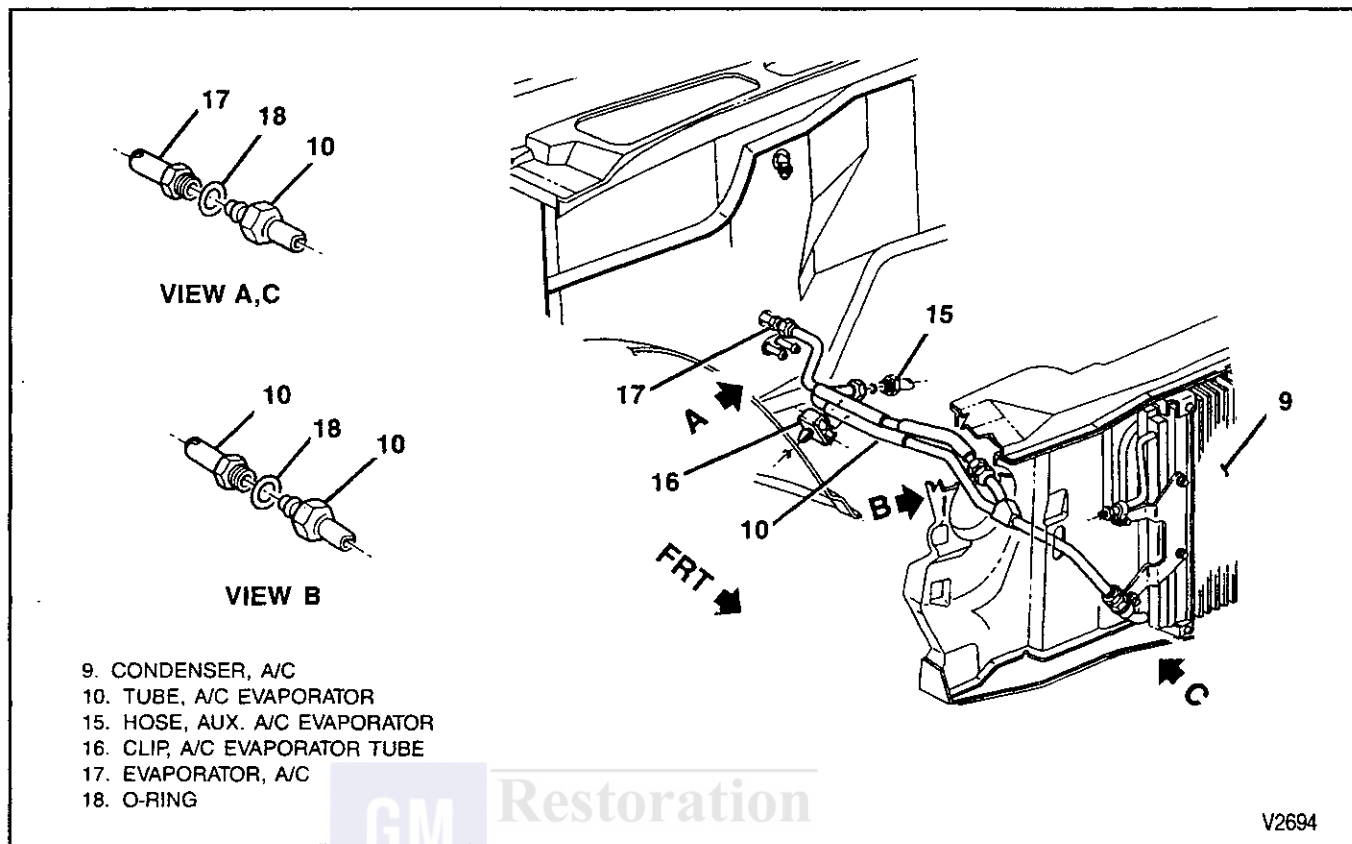
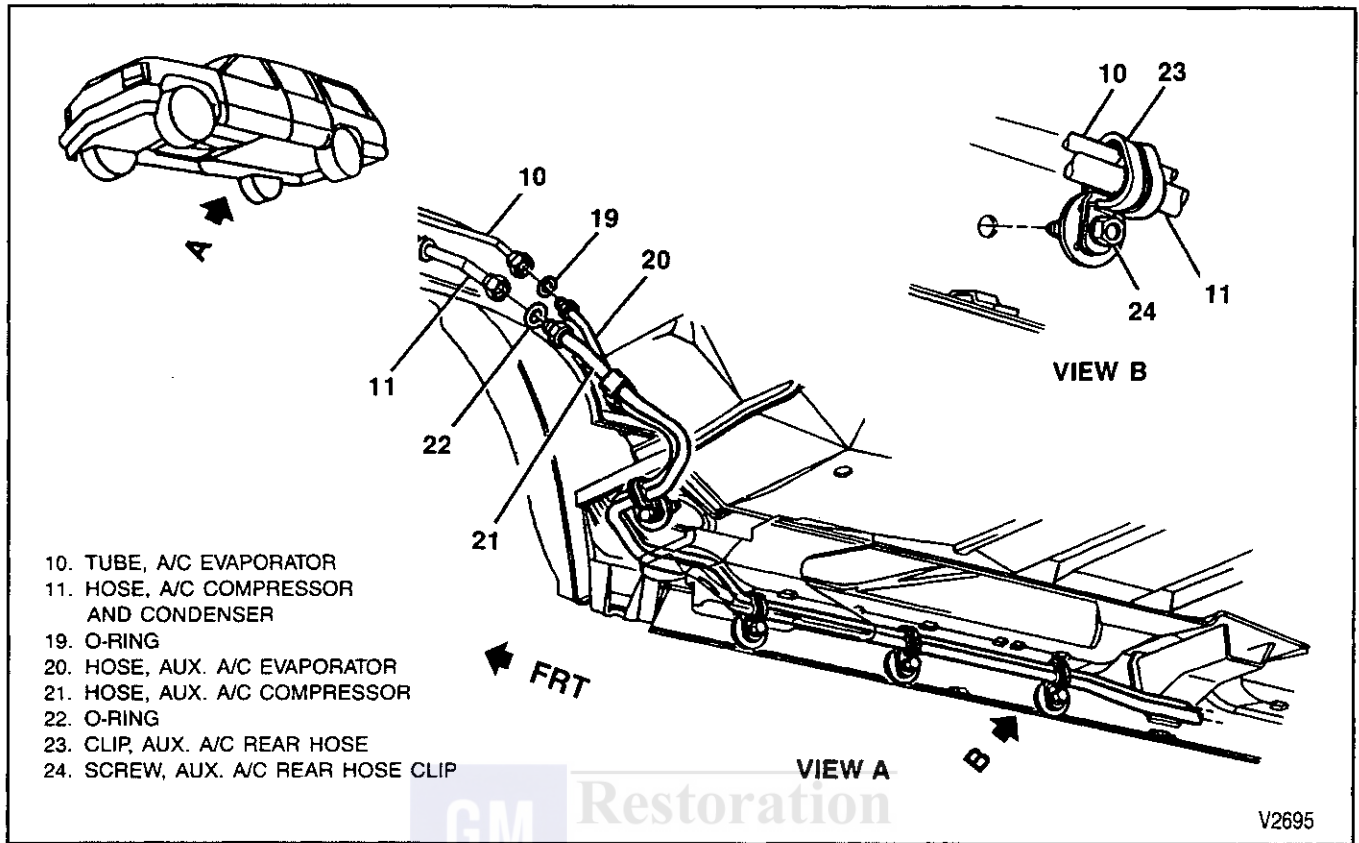

Figure 41—Auxiliary Evaporator Tube
Figure 44—Auxiliary Compressor and Condenser Hose Routing
##### ↔ Remove or Disconnect (Figure 41)
##### ↔ Install or Connect (Figure 41)
**Remove or Disconnect (Figures 41 through 45)**
3. Evaporator tube (10) from auxiliary evaporator hose (15) (figure 41).
6. O-ring seal (22).
8. Auxiliary evaporator hose (20) from auxiliary evaporator (26) (figure 44).
9. O-ring seal (25).
10. Auxiliary compressor hose (21) from auxiliary evaporator (26) (figure 44).
11. O-ring seal (25).
12. Screws (24).
13. Hose clips (23).
14. Auxiliary evaporator hose (20).
15. Auxiliary compressor hose (21).
**Install or Connect (Figures 41 through 45)**
- Screws (24) to 6 N.m (53 lbs. in.).
- 5. New O-ring seal (25).
- 6. Auxiliary compressor hose (21) to auxiliary evaporator (26) (figure 44).
- Auxiliary compressor hose (21) to 32 N.m (24 lbs. ft.).
- 7. New O-ring seal (25).
- 8. Auxiliary evaporator hose (20) to auxiliary evaporator (26) (figure 44).